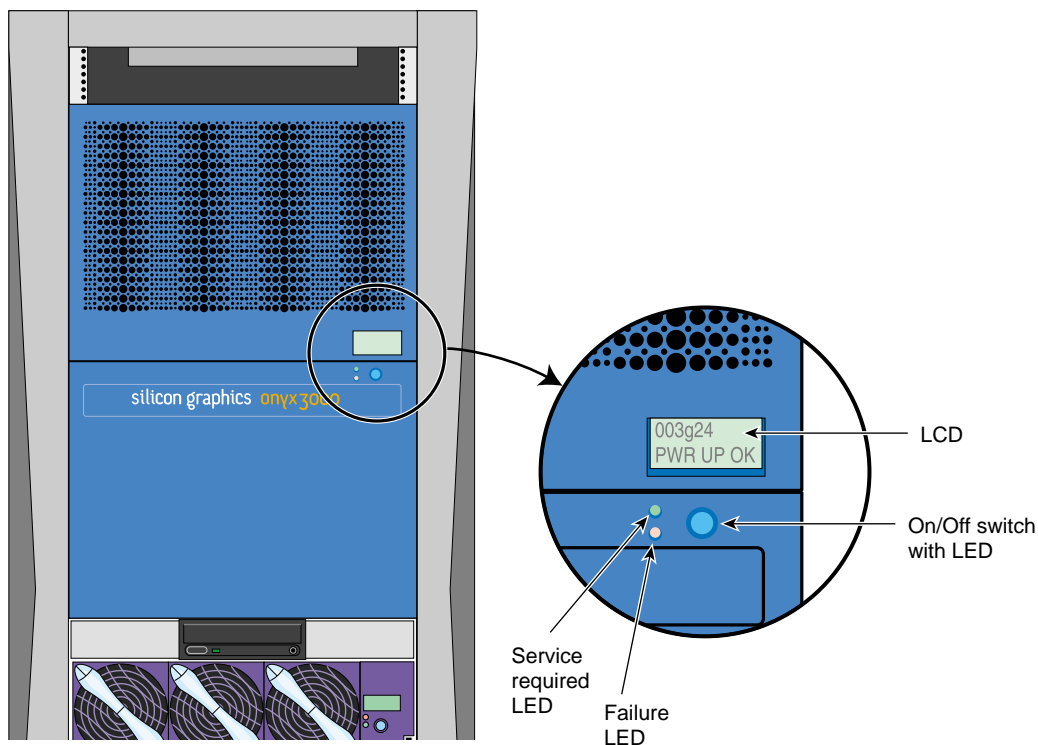

Figure 4-10 G-brick L1 and Power Button
7. After the system powers on, confirm that the L1 controllers on each brick are active, (see Figure 4-10 for an example).